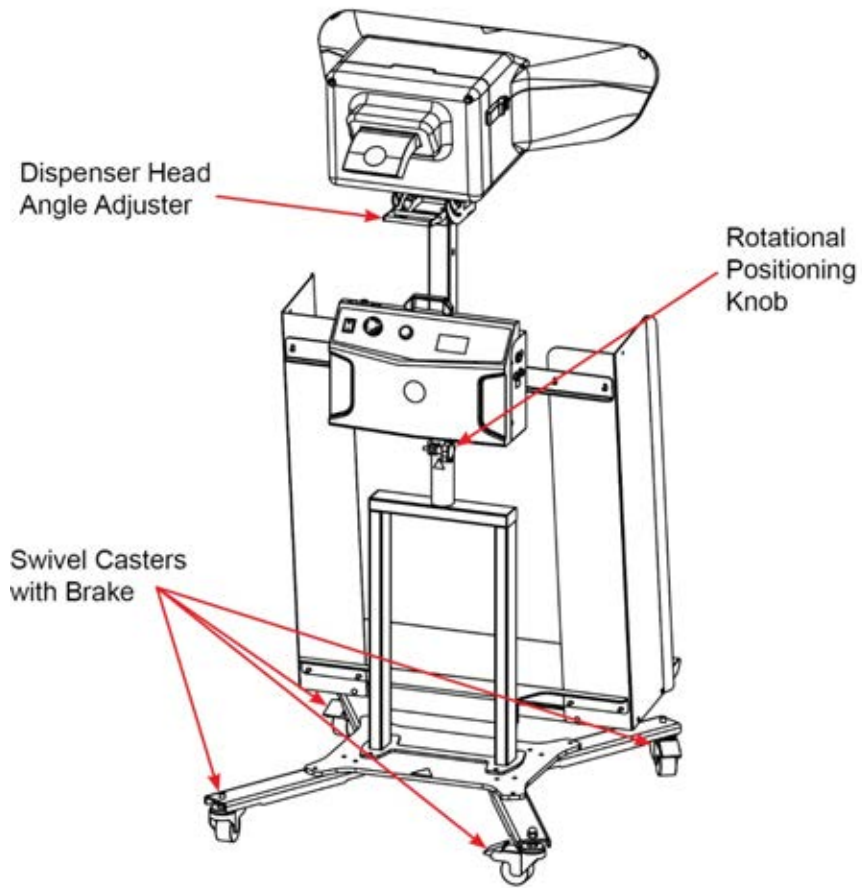

Figure 5 Floor Stand
1. Floor Stand (refer to Figure 5).
1. Turn the Rotational Positioning Knob three turns counterclockwise to loosen the **Dispenser Head** (refer to Figure 5).
3. Tighten the Rotational Positioning Knob by turning it clockwise (refer to Figure 5).